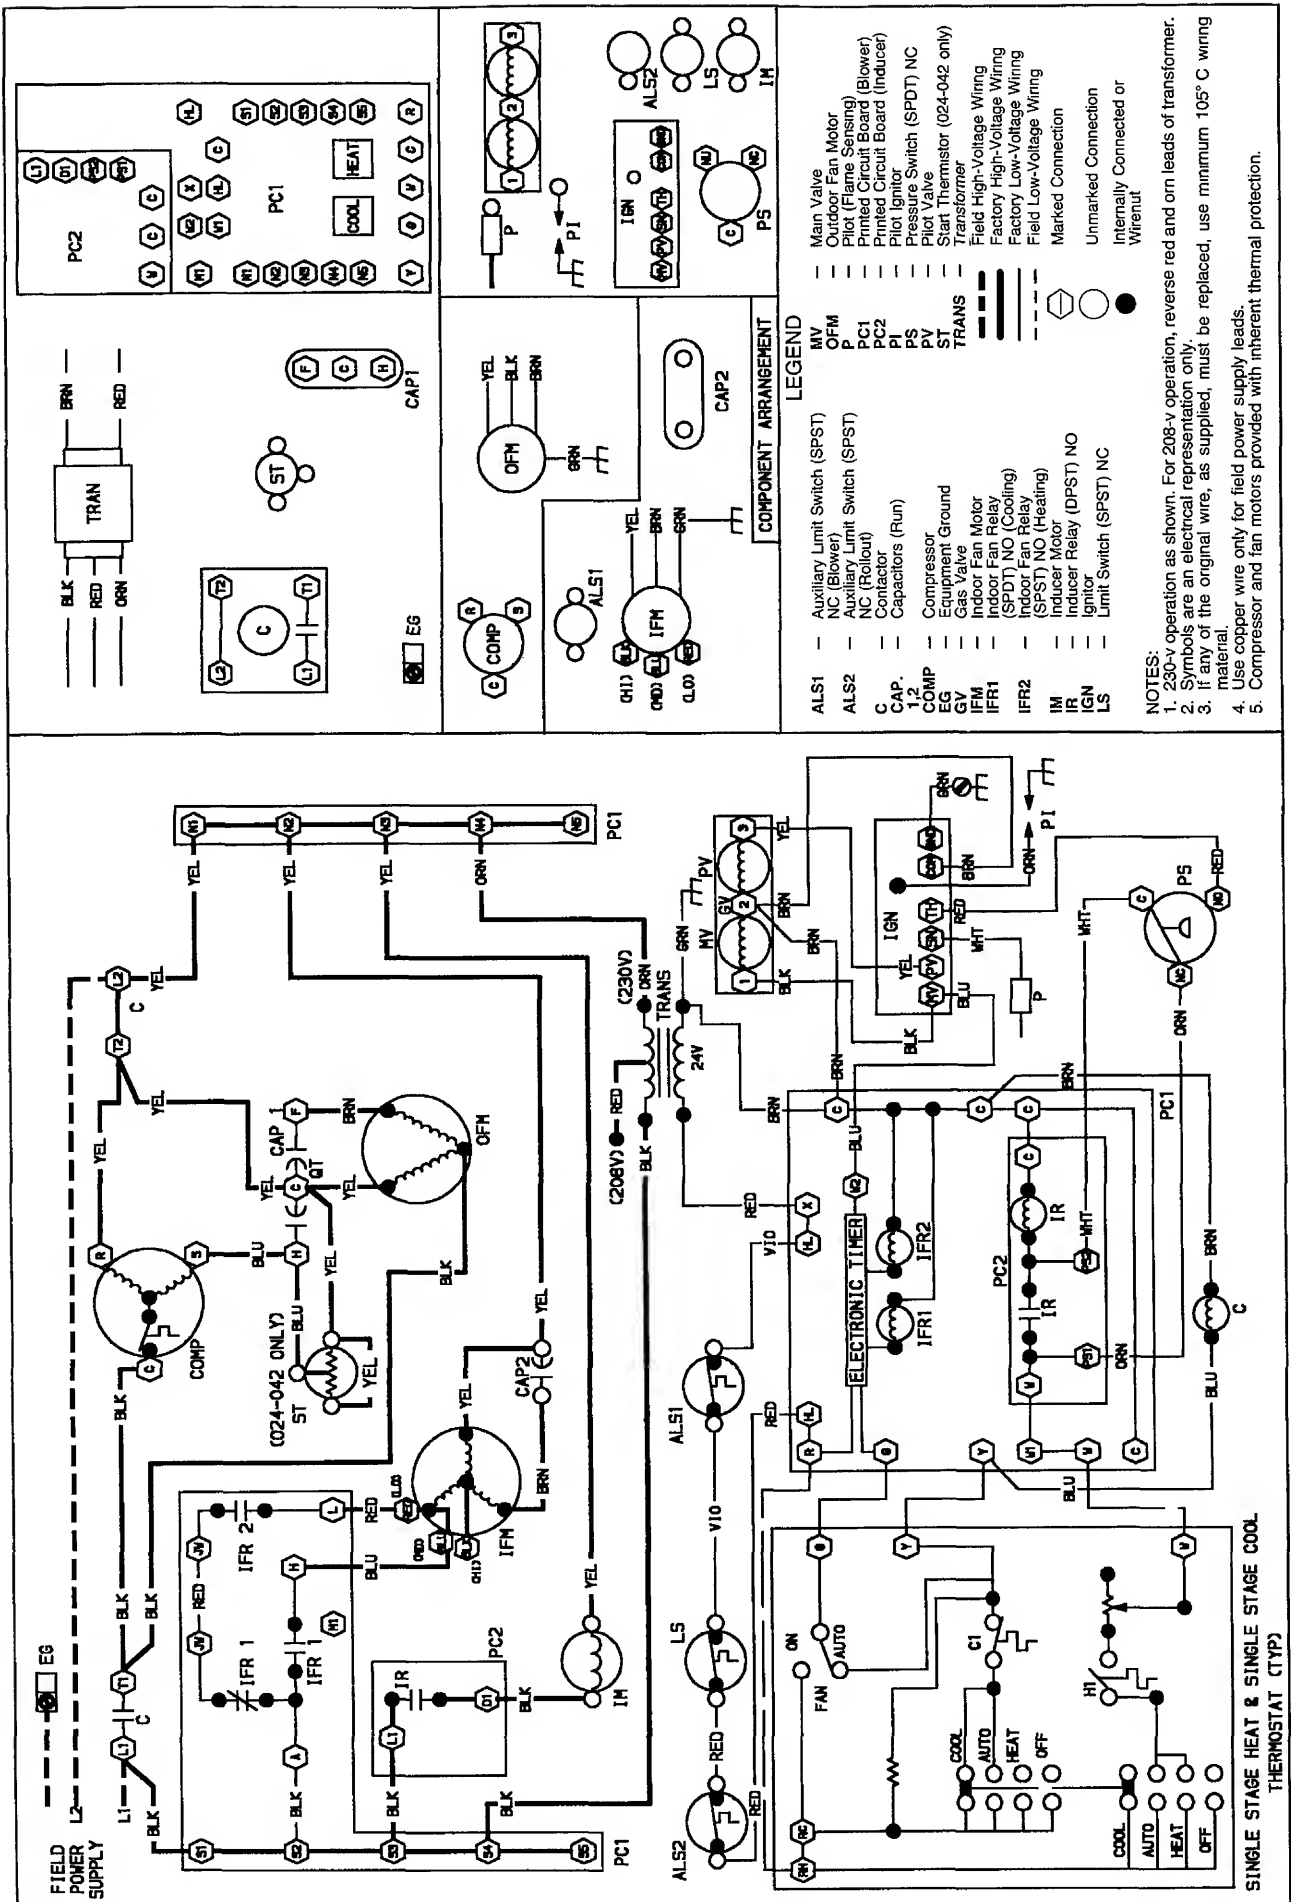

Fig. 13 — Typical Single-Phase Wiring Diagram
HEATING SEQUENCE OF OPERATION — See Fig. 13 for single-phase operation and Fig. 14 for 3-phase operation. Room thermostat calls for heat, closing circuit between R and W 24-v control circuit terminals. (Power to the R terminal is supplied through LS and ALS safety switches.) The PC2 inducer control board is energized through the normally closed set of contacts of pressure switches (CPS), which starts the inducer motor (IM). The IM comes up to speed, and the vacuum in the collector box increases, opening the normally closed and closing the normally open contacts of the pressure switch (PS), energizing the circuit to the ignition control (IGN) and the pilot valve (PV). If the flame sensor proves the presence of the pilot flame, the internal switching of the ignition control deenergizes the spark generator and energizes the main gas valve (MV) and the IFR2 electronic timer. Gas flows to the main burners and is ignited by the pilot flame. The PC1 electronic timer
LIMIT SWITCHES — Normally closed limit switch LS completes the control circuit through the thermostat R circuit. See Fig. 13 and 14. Should the leaving-air temperature rise above the maximum allowable temperature, the limit switch opens and the R control circuit “breaks.” Any interruption in the R control circuit instantly closes the gas valve and stops gas flow to the burners and pilot. The IFM continues to run until the LS resets.